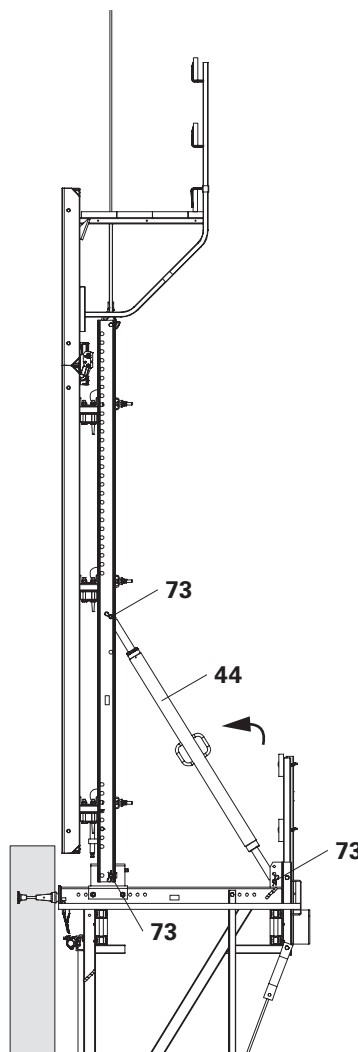
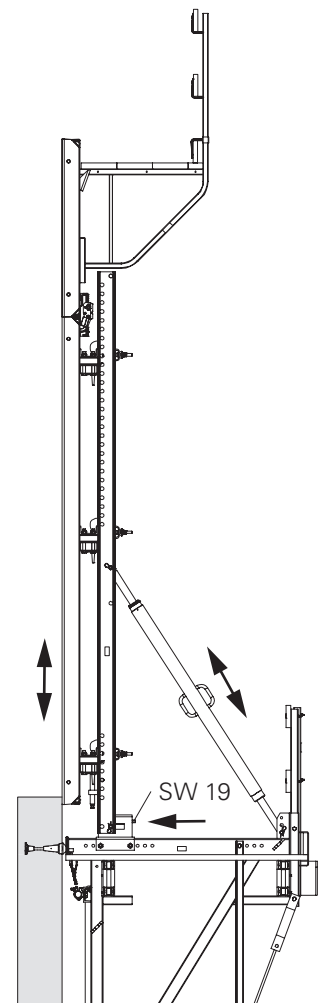

Fig. B2.28c
Fig. B2.28d
5. Fix Adjustable Brace CB 164-224 (44) to the bracket using Bolts  $\varnothing 25 \times 180$  (73) and Cotter Pins 4/1. Spindle out to approx. length and attach to Strongback CB (70). (Fig. B2.28c)
6. Detach crane lifting gear. Close decking (31) on the concreting platform.
8. Align formwork, see B3. (Fig. B2.28d)